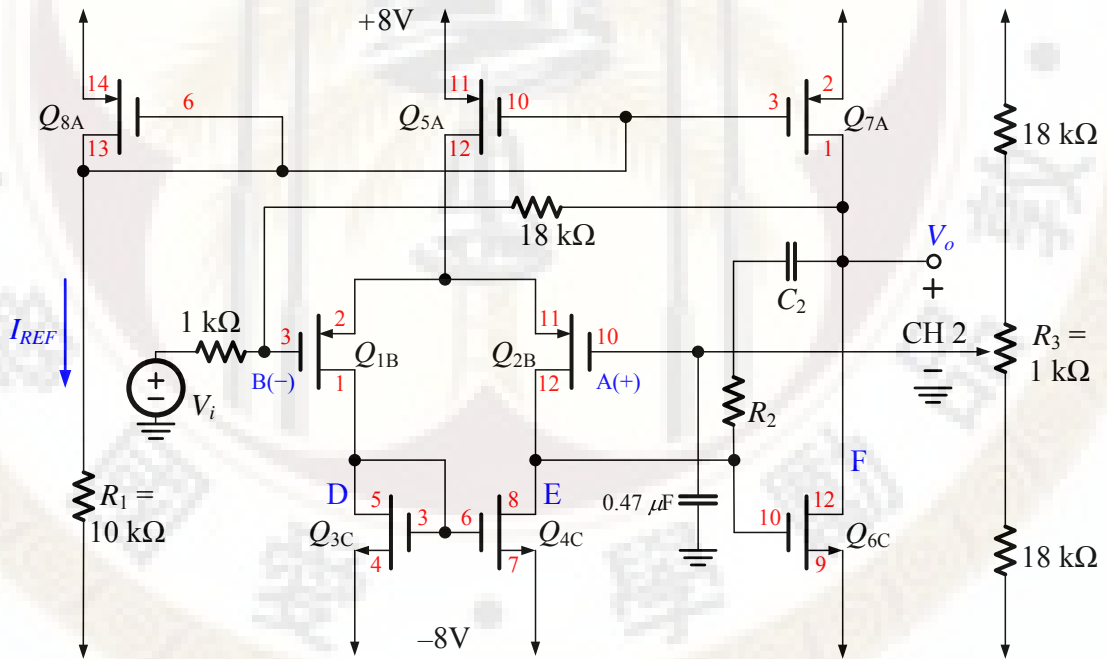

Fig. 6 Feedback network compensation
- (2) In Fig. 6, apply the input small signal V_i to the breadboard by using function generator to generate $v_i = v_{ac} \times \sin(2\pi ft)$, $2v_{ac} = 100\text{mV}_{(p-p)}$, $f = 1\text{ kHz}$.
- (3) Repeat step (8) ~ (11) shown in step 3.
- (4) Record the voltage gain $A_{M.3} = \underline{\hspace{2cm}}\text{ V/V}$.
- (5) Record the dynamic range $V_i = \underline{\hspace{2cm}}\text{ V}$.
- (6) Record the frequency $f_{3dB.3} = \underline{\hspace{2cm}}\text{ Hz}$.
- (7) Change the frequency of input voltage source, and record the input and output voltage shown in oscilloscope to the following table.